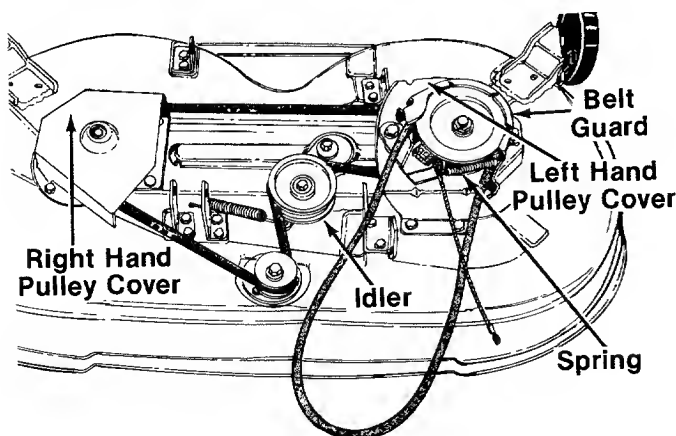

FIGURE 22.
2. Remove the belt guard by unhooking the spring and removing two self-tapping screws. See figure 22.